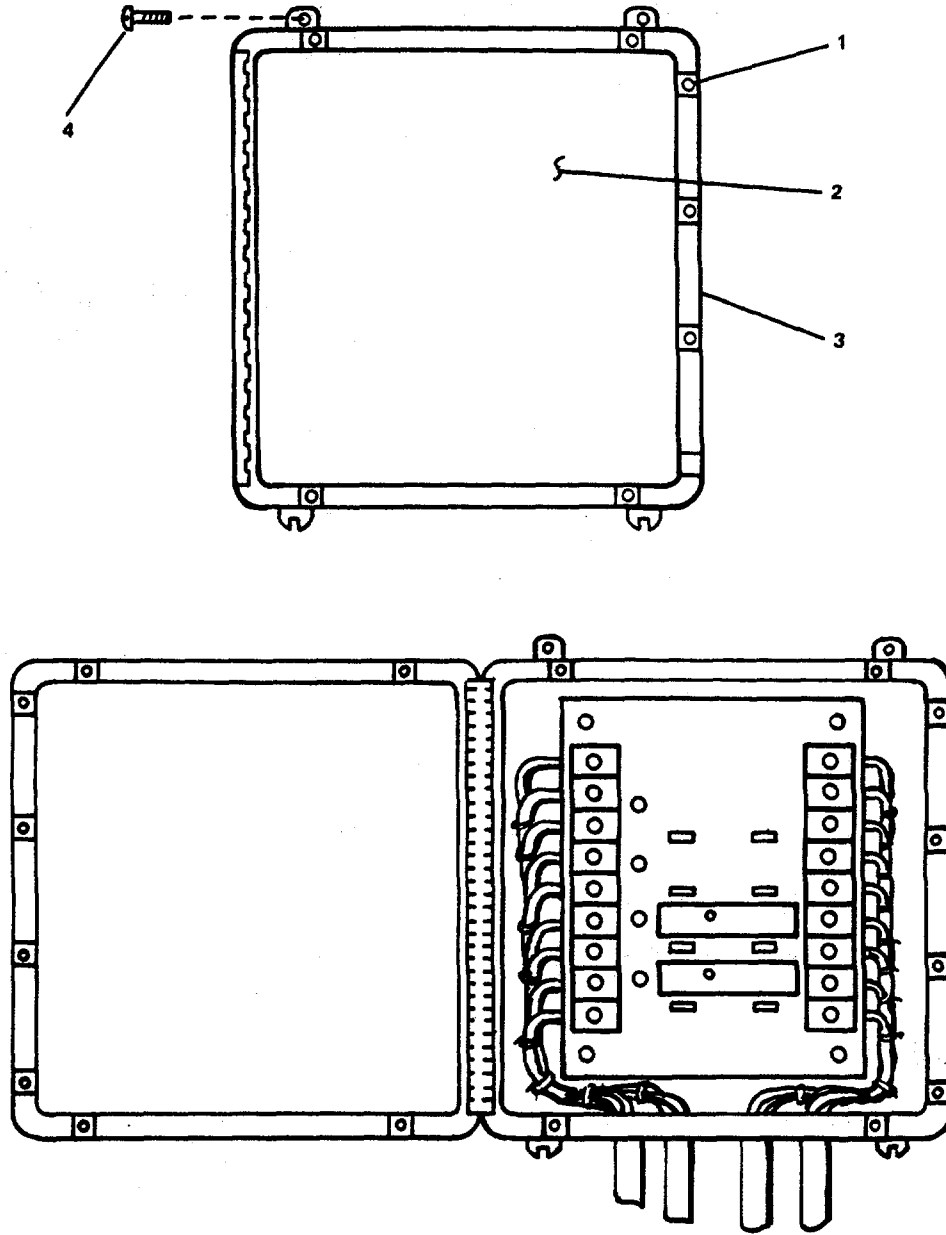

FIGURE 3-120. Interface Unit Assembly.
- c. Remove tag and connect electrical power cable (9) to INTFC (7).
- d. Remove tag and connect electrical power cable (11) to INTFC (6).
- e. Remove tag and connect electrical power cable (12) to MCCP210 (12).
- f. Remove tag and connect electrical power cable (14) to liquid level switch (15).
- g. Remove tag and connect electrical power cable (17) to liquid level switch (16).
- h. Remove tag and connect electrical power cable (19) to liquid level switch (18).
- i. Install generators remote module (4) in enclosure (3).
- k. Close cover (2).and tighten captive screws (1).
**3-131. Replace/Repair Interface Unit Assembly. (Figure 3-120)**